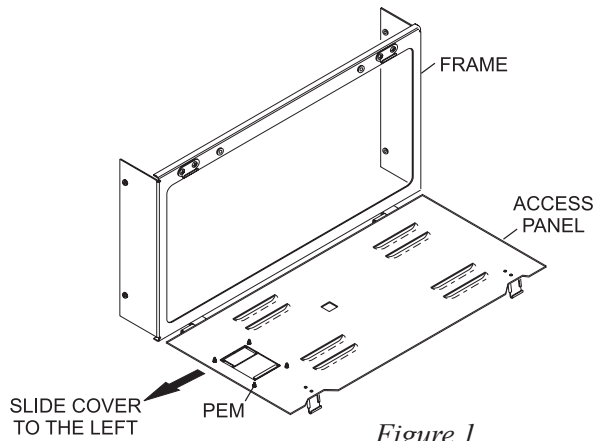

Figure 1
4. Open the new Electrical Box Cover (P/N 12-862263-000) and unhinge the access panel by sliding it to the left. Place the access panel aside. Refer to *Figure 1*.